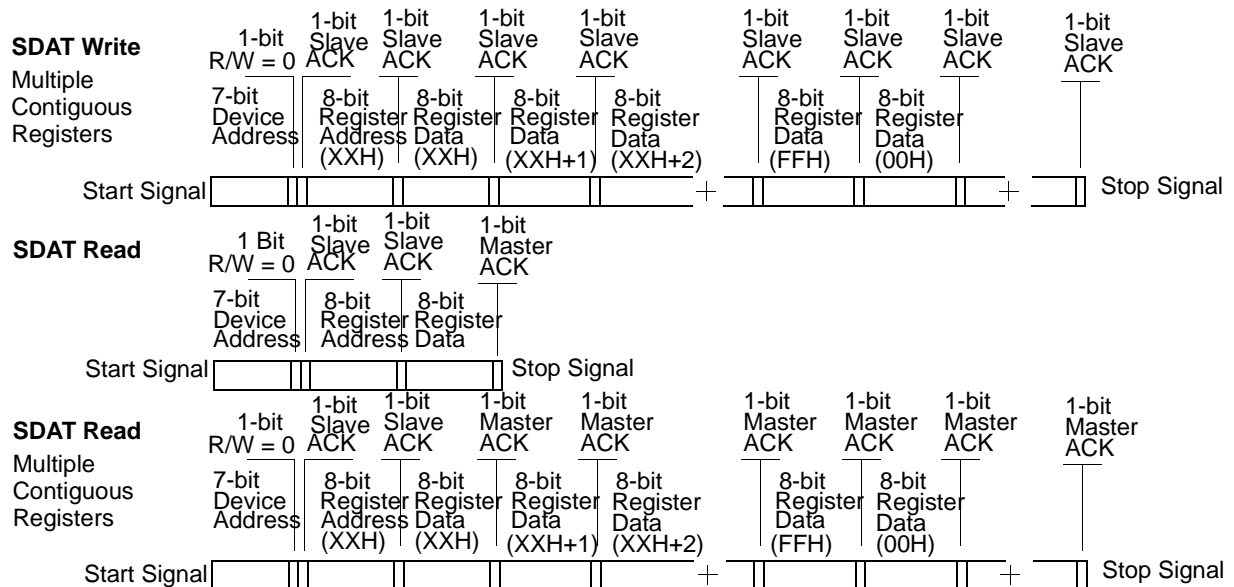

Figure 3. Data Frame Architecture
Start Bit; 7-bit Device Address (DA); R/W Bit; Slave Clock Acknowledge (ACK); 8-bit Memory Address (MA); ACK; 8-bit data; ACK; 8-bit data in MA + 1 if desired; ACK; 8-bit data in MA+2; ACK; etc. until STOP bit. The basic serial format is illustrated in *Figure 3*.